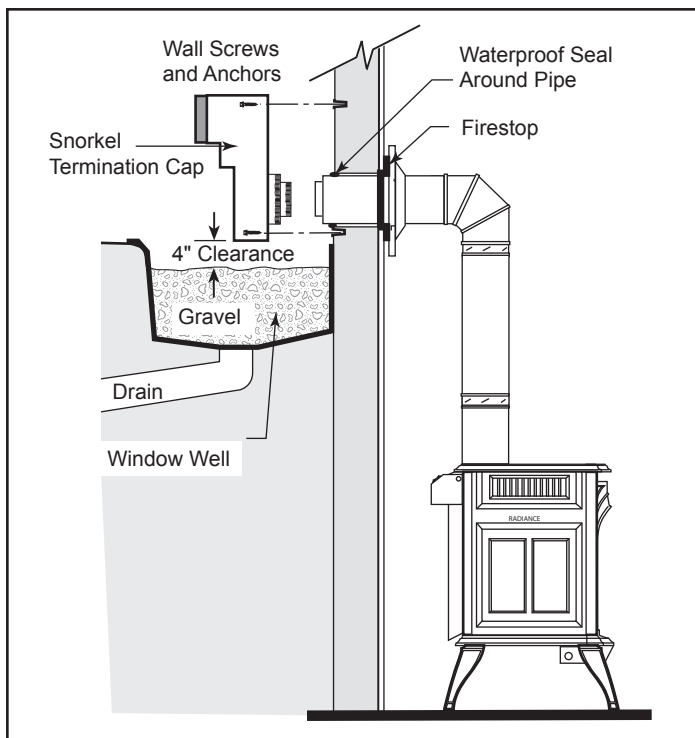

Figure 3.22 - Snorkel kit installation.
2. Remove soil to a depth of approximately 16" (406 mm) below the base of the snorkel. Install a window well (not supplied). Refill the hole with 12" (305 mm) of coarse gravel and maintain a clearance of at least 4" (102 mm) below the snorkel. (Figure 3.22)
7. If the foundation is recessed, use extension brackets (not supplied) to fasten the lower portion of the snorkel. Fasten the brackets to the wall first, and then fasten to the snorkel with self-tapping #8 x 1/2" sheet metal screws. Extend the vent pipes out as far as the protruding wall face. (Figure 3.22)